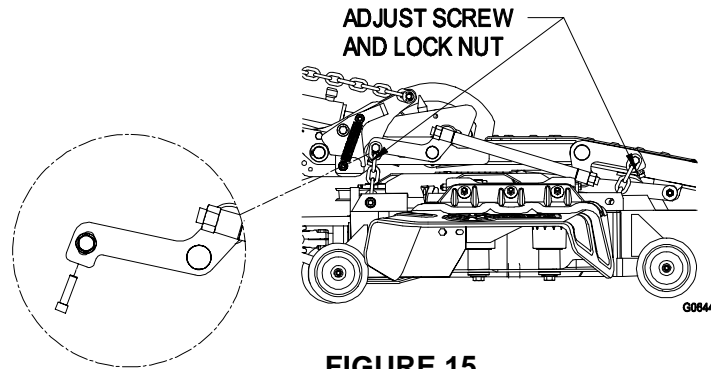

FIGURE 15
- f) If adjustments are necessary, four socket head 5/16-18 x 1-1/4 screws have been provided in the literature bag. Install these screws into the deck lift arms until they touch the hex head deck chain screws. Loosen the top chain screws in slots in the deck lift arms (See Figure 15). Turn the socket head screws to move